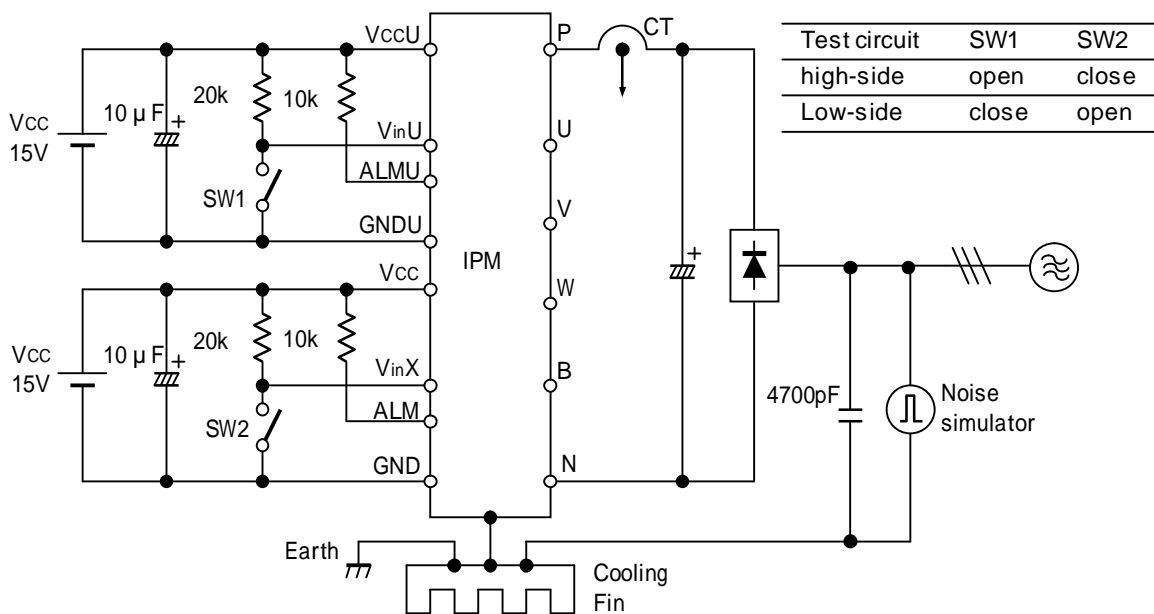

Figure9. Noise Test Circuit
7. Noise Immunity (VDC=600V, VCC=15V, Test Circuit Figure 9.)